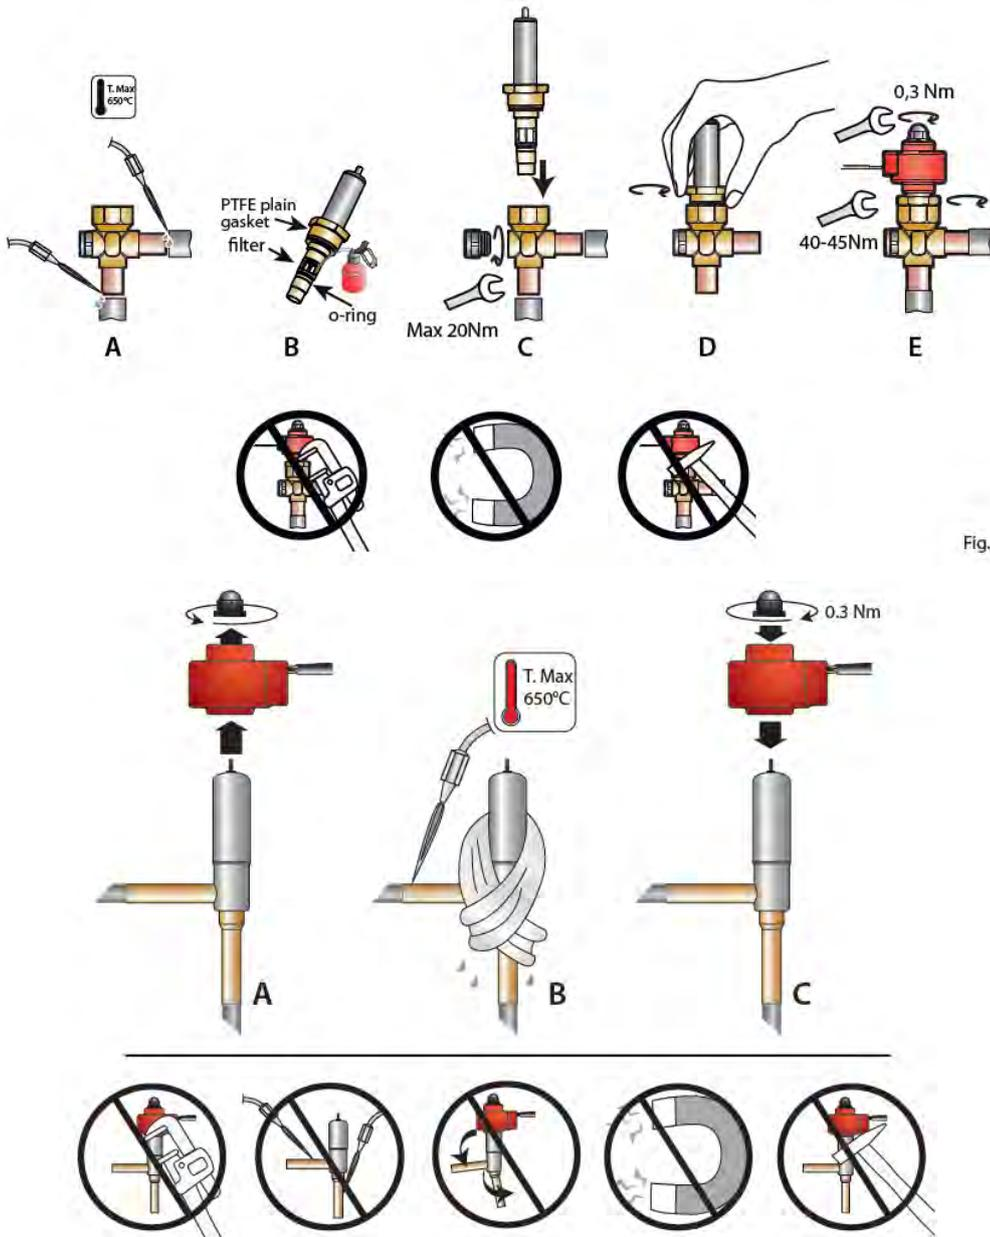

Fig. 2
The E2V-Z valves must be joined to the circuit by braze welding the copper fittings to the condenser outlet (IN) and evaporator inlet (OUT) pipes. Proceed as indicated in Fig. 2:
4. Make sure that the plunger and 'o' ring are present and positioned in their site (Fig. 2-B) (if applicable).
5. Make sure that the metal mesh filter is inserted on the brass bushing (Fig.2-B). Otherwise, position it as shown in the figure and make sure it's properly in place.
6. It is necessary to lubricate with oil (any of those normally used in refrigerant circuits) the outer surface of the cartridge 'o' ring (Fig. 2-B) (if applicable)
7. Insert the cartridge inside the braided body, taking care not to force it during insertion (Fig 2-C).
8. Proceed to manually screw the brass nut until it reaches its limit (Fig. 2-D).
9. Tighten the nut on the valve body with a 24-inch fork wrench with a tightening torque of 45Nm (Fig. 2-E). It is possible to change the valve size only by replacing the existing cartridge with a different size (without changing the valve body).
10. Insert the red stator, not included (see table "Electrical connections"), on the cartridge with the black nut screwed on tightly until deforming the rubber ring on the stator (tightening torque 0.3 Nm) (Fig. 2-E).